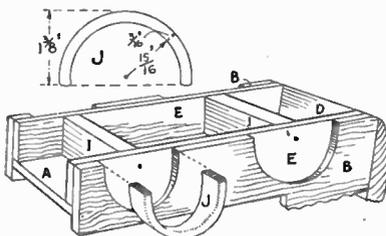

Fig. 5
We now come to the mudguards (J), of which there are four all of the same size and shape. Wood $\frac{3}{8}$ in. thick is suggested for these, and each is cut from wood $2\frac{1}{2}$ ins. by $1\frac{1}{2}$ ins. as shown in the enlarged detail in Fig. 5. The main diagram here is of the underside of the van showing the axles and one of the mudguards ready to be put into place on piece (E), and in the curved recess in piece (B).